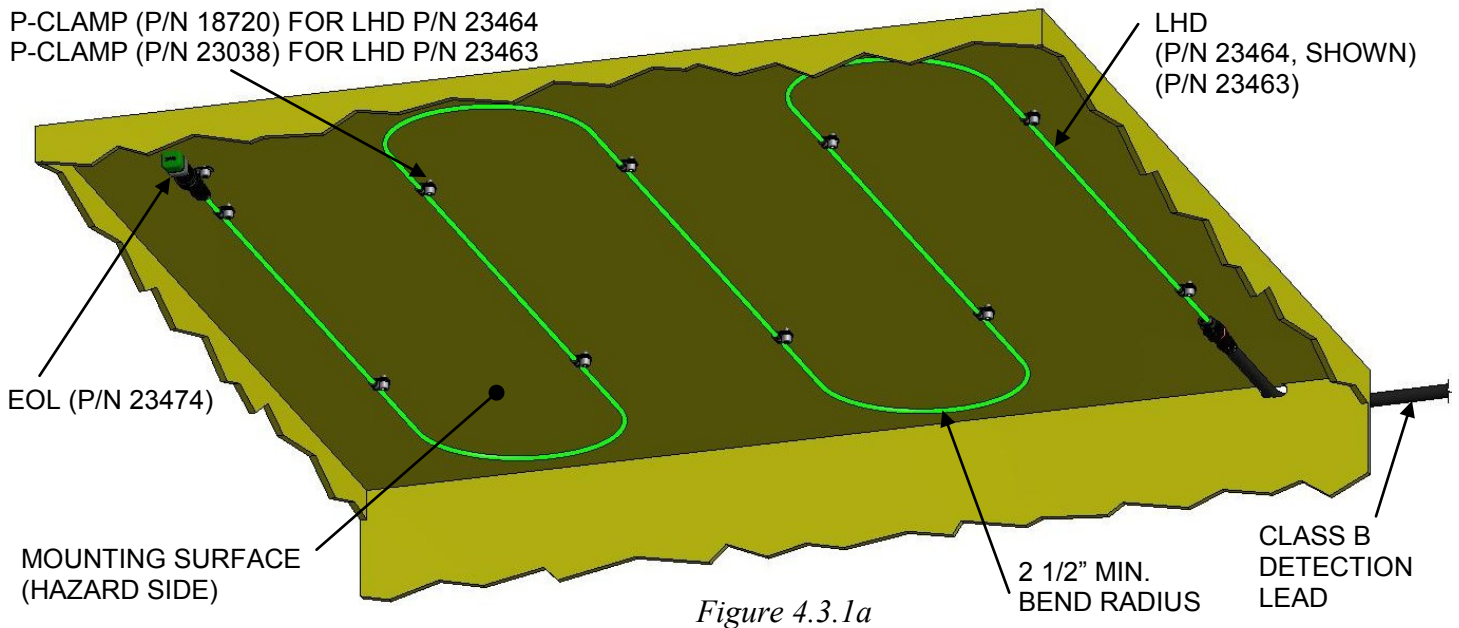
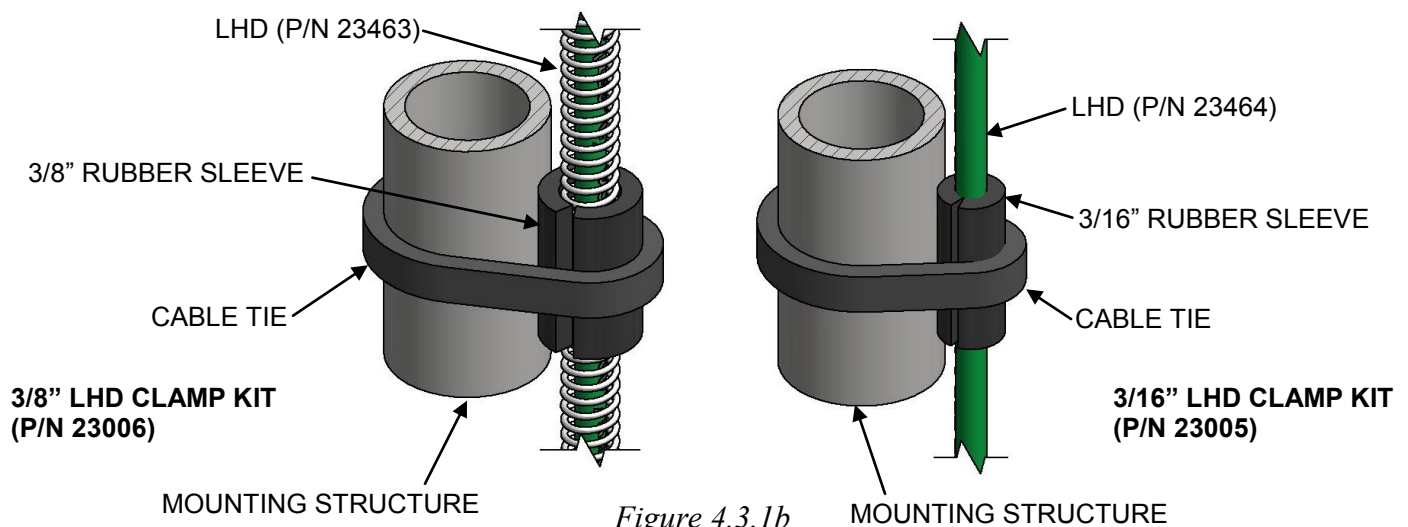

Figure 4.3.1a
Figure 4.3.1b
- Each LHD must be installed using padded p-clamps (See Figure 4.3.1a) or the p-clamps can be substituted with cable ties and rubber sleeves (See Figure 4.3.1b). If p-clamps are used, LHDs without the stainless steel spring wire (P/N 23464) will use a 3/16" padded p-clamp (P/N 18720), while LHDs with the protective stainless steel spring wire (P/N 23463) will use a 3/8" padded p-clamp (P/N 23038). The LHD must be secured a minimum of every 18" (0.46 m).
Use of cable ties and rubber sleeve material is permitted only when using Amerex kits (P/N 23005 or P/N 23006). If using LHDs without the protective spring (P/N 23464), the 3/16" LHD Clamp Kit (P/N 23005) must be used, while LHDs with the protective spring (P/N 23463) will require the 3/8" LHD Clamp Kit (P/N 23006). The LHD must be secured to supporting structure by cinching the cable tie over hose, LHD, and structure (See Figure 4.3.1b). The LHD must be secured a minimum of every 18" (0.46 m).